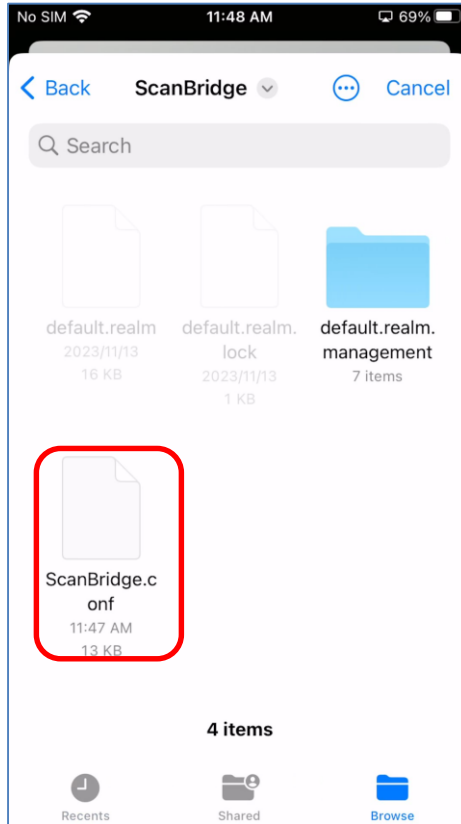

Figure 9.3.2
2. **Export:** To export the current configuration of ScanBridge to ScanBridge (Figure 9.3.2) folder.